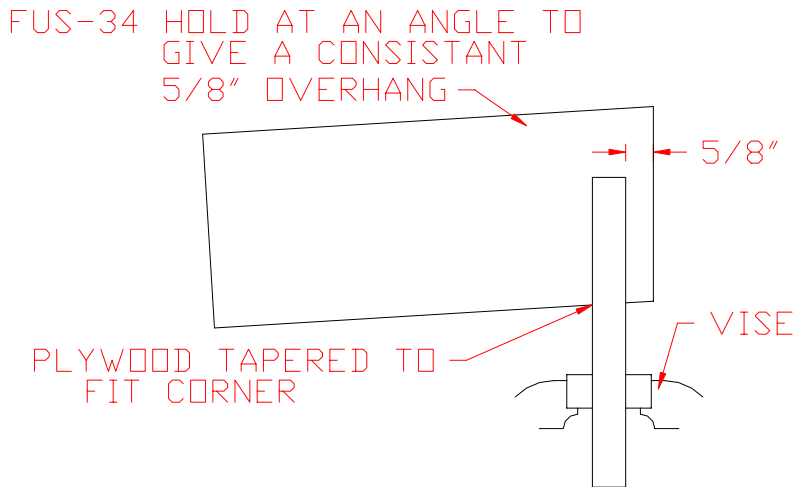

Figure 9.12.8
- 35) Hold the corner panel in the cutout portion with 5/8" hanging out one end. Figure 9.12.8.